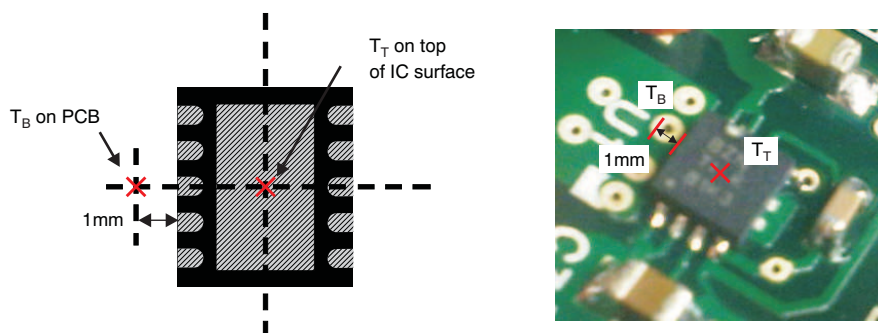

Figure 31. Measuring Points for T_T and T_B
- T_B is the PCB temperature measured 1mm away from the IC package *on the PCB surface* (as Figure 31 shows).